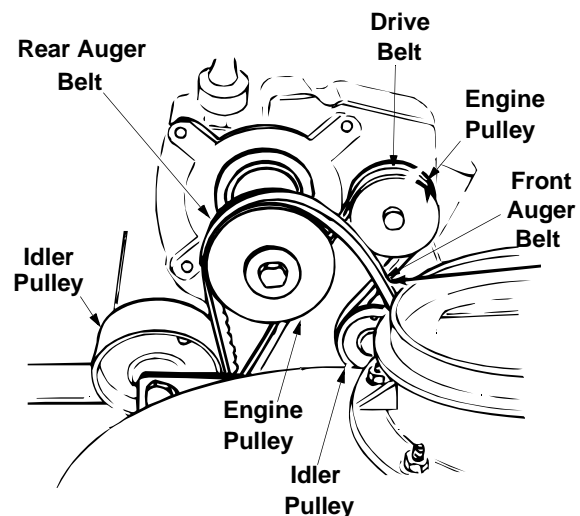

Figure 22
- Roll the front and rear auger belts off the engine pulley. See Figure 22.
- Lift the rear auger belt from the auger pulley, and slip belt between the support bracket and the auger pulley. See Figure 22. Repeat this step for the front auger belt.
- Pull idler pulley up, and lift belt off engine pulley and friction wheel disc. See Figure 22.